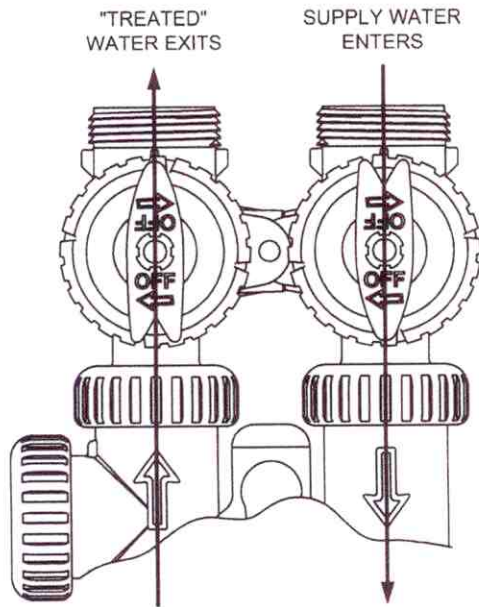

Figure 2
2. Place the bypass in the bypass position as in figure 2 (See page 8).
2. Bypass Position: The inlet and outlet handles point to the center of the bypass, the control valve is isolated from the water pressure contained in the plumbing system. Untreated water is supplied to the plumbing system. (See Figure 2)